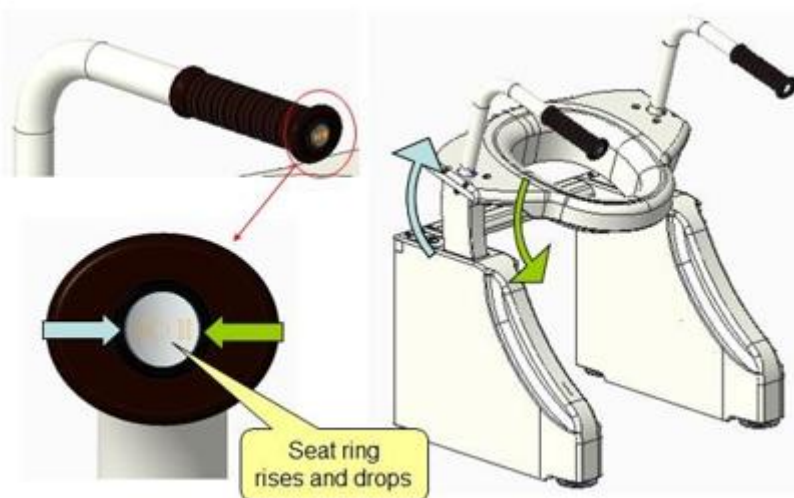

Figure 11 Fixing the equipment with the toilet after adjusting the distance d'extension.
4. For users with poor body balance, the crossbar of the main part A of the equipment should be fixed to the toilet with bolts (as shown in Figure 10, Figure 11).